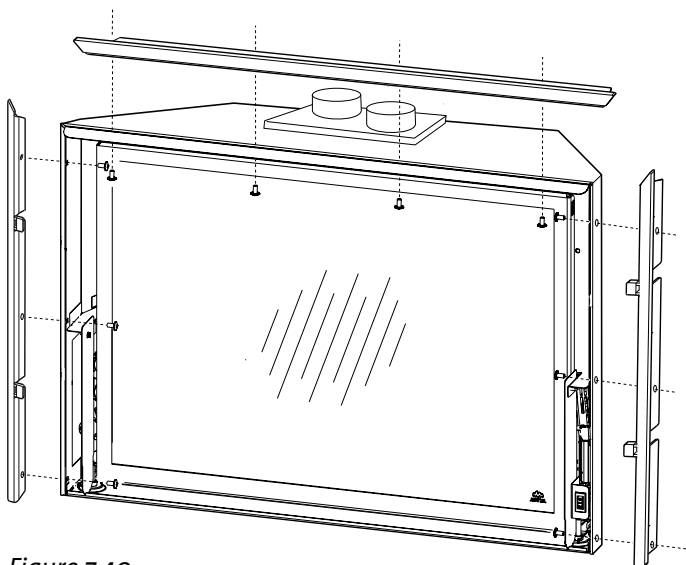

Figure 7.40.
1. Attach each bracket using the 10 M6 x 8 phillips head screws provided, as shown in fig. 7.40.